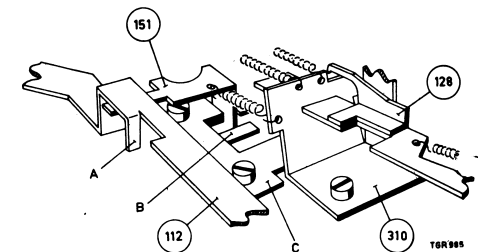

Fig. 23
None of the push-buttons depressed. The switch cursors should be in the positions shown in Fig. 25. Adjust by loosening plate C and moving it slightly, see Fig. 23.
Depress right-hand winding button. The switch cursor should then be set as shown in Fig. 28. Adjust by bending lug A, see Fig. 23.
None of the push-buttons depressed. The switch cursor should then be set as shown in Fig. 29. Adjust by bending lug A, see Fig. 23.
Set the apparatus to track 1-4 or 2-3. The distance between bracket, item 148, and bracket, item 128, should then be 0.6 \pm 0.2 mm. This can be adjusted by loosening bracket, item 310, and by moving it, see Fig. 23 and Fig. 30.